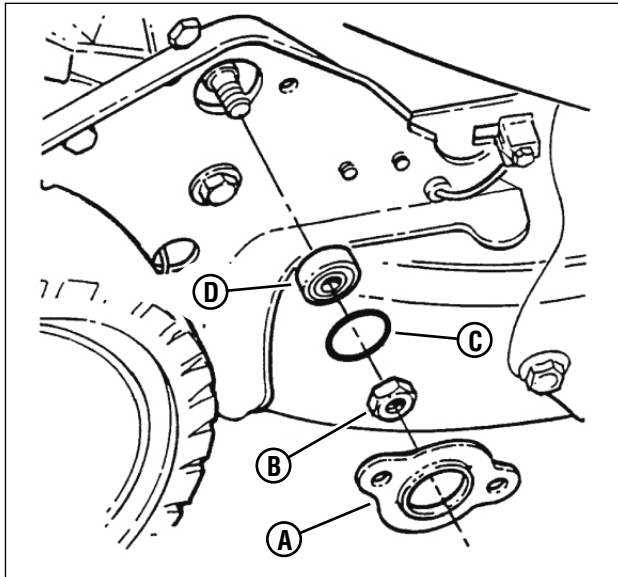

Figure 33: Replacing the hex shaft bearing
2. Remove the 3/8" hex lock nut (B, Figure 33), located on the outside of the right wheel bracket.
3. Remove the holder (A), O-ring (C) and bearing (D).